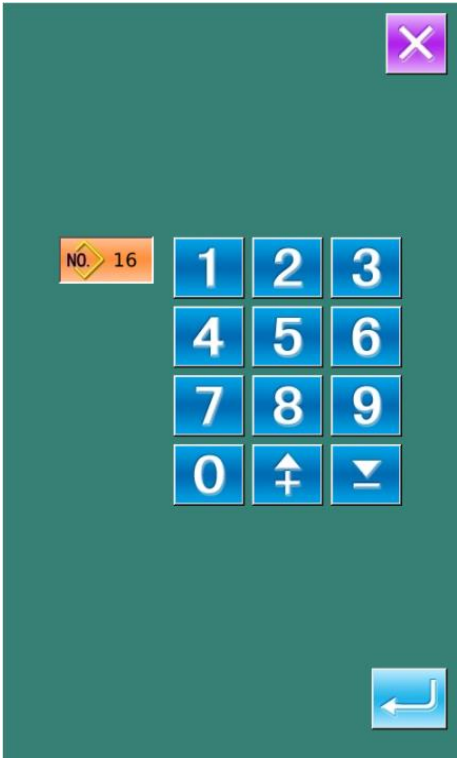

Figure 3
- F、Select a pattern and then press  to display the interface shown as figure 3.